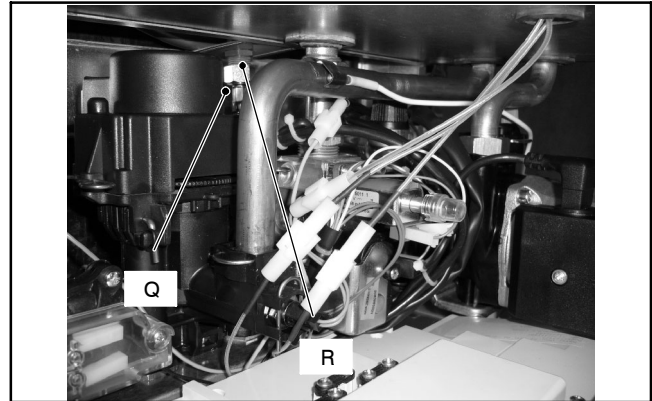

Fig. 66
- 2 Completely unscrew the connection *Q*, the lock-nut *R* (Fig. 66) and remove the expansion vessel from the top of the boiler.